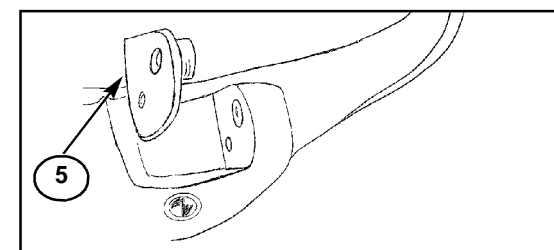

Figure 8.
Install the cam insert (5) to hand rail. Figure 8.